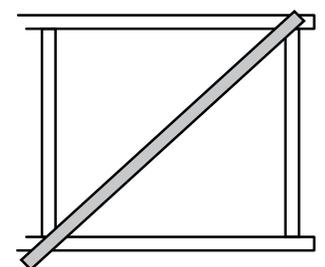

Figure 18
- Lay the diagonal piece across (Figure 18). Mark with a pencil (Figure 19).